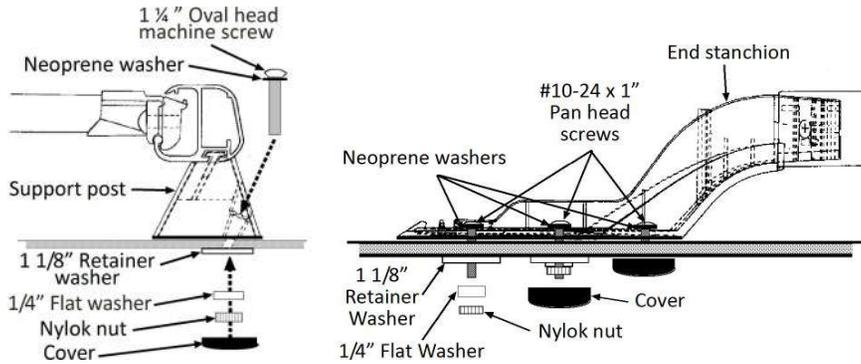

Figure 2
Insert #10-24x1 1/4" oval head machine screws through post and roof. Install retainer washer, stainless steel flat washer, NyLok nut, and cover inside cap as detailed in Step 9, illustrated in the drawing (Fig. 2, Page 7). Keep in mind that the fasteners on these support posts will mount at an angle, not vertical as with all other fasteners.
9. Installing outside hollow-core area or a roof thickness under 1/2 ": (Two people required for this step; See Figure 2, Page 6) Insert #10-24x1" pan head machine screws down through end supports, and 1 1/4" oval head machine screws through center post (when applicable). Place 1 1/8" retainer Washer against inside of roof with flange side down, followed by 1/4" Stainless Steel flat washer and #10-24 lock nut. Tighten securely. **Do not overtighten**, as excessive screw torque may damage fiberglass and/or force neoprene washers from under screw heads.